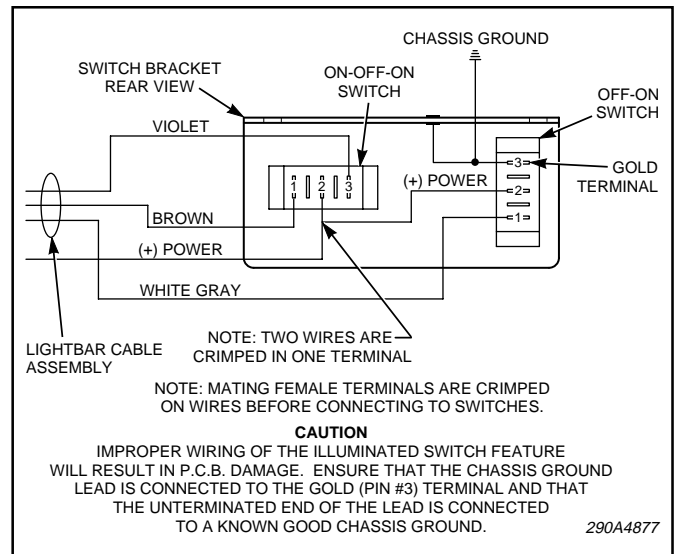

Figure 2.
b. See figure 2. Crimp five 1/4" straight terminals on the wire ends. Connect terminals on the switches as shown.
a. See figure 2. Connect the right angle terminal on the switch bracket ground lead to the gold (pin #3) terminal of the on/off switch.